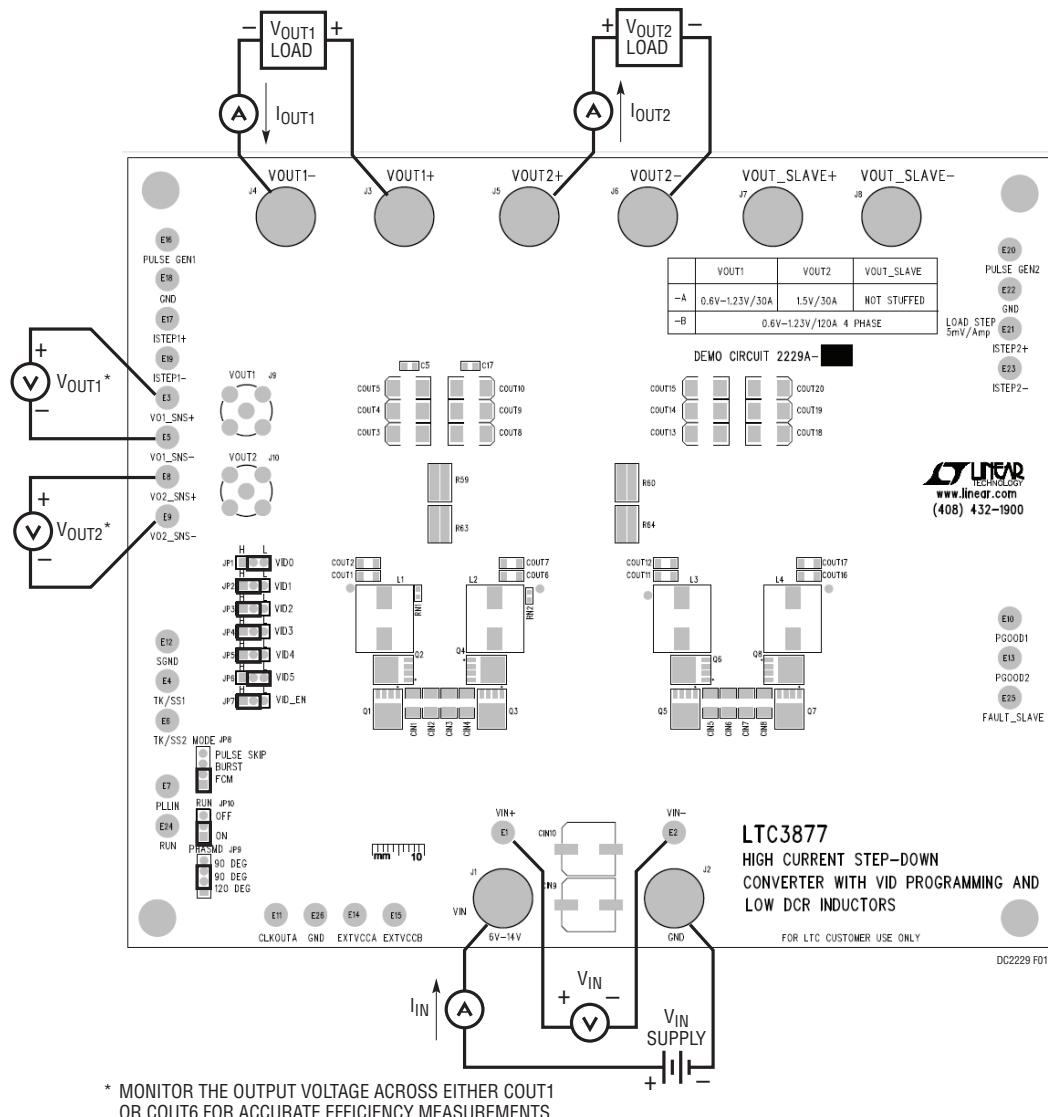
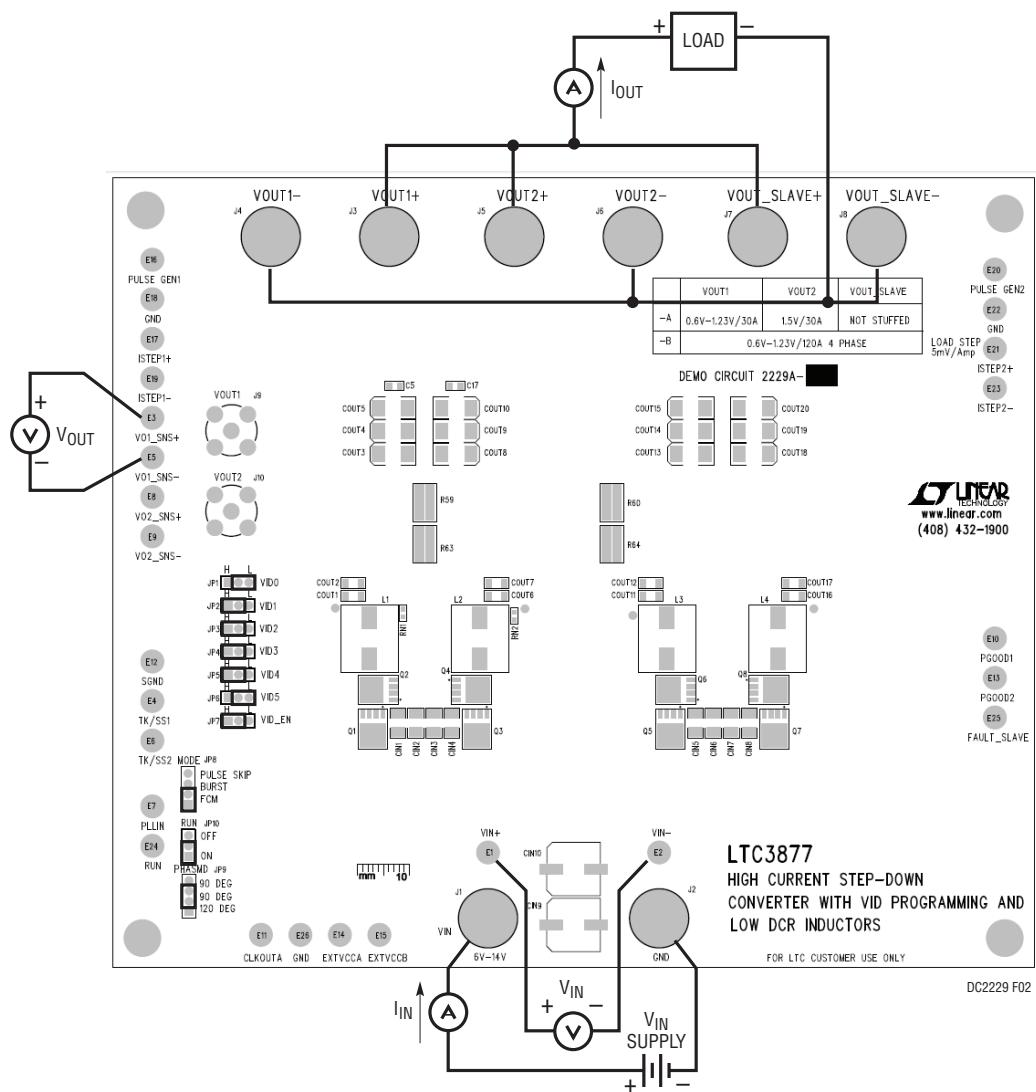

Figure 1. Proper Measurement Equipment Setup for the Dual Output LTC3877 Converter (DC2229A-A Assembly)
Figure 2. Proper Measurement Equipment Setup for the Four Phase LTC3877/LTC3874 Converter (DC2229A-B Assembly)
Demonstration circuits 2229A-A and 2229A-B are easy to set up to evaluate the performance of the LTC3877 and LTC3874. Please refer to Figure 1 (DC2229A-A assembly) and Figure 2 (DC2229A-B assembly) for the proper measurement equipment setup and follow the procedure below.
- 1) With power off, connect the input supply, load and meters as shown in Figure 1 or Figure 2. Preset the load to 0A and V_{IN} supply to be 0V. For both assemblies, place the jumpers in the following positions: